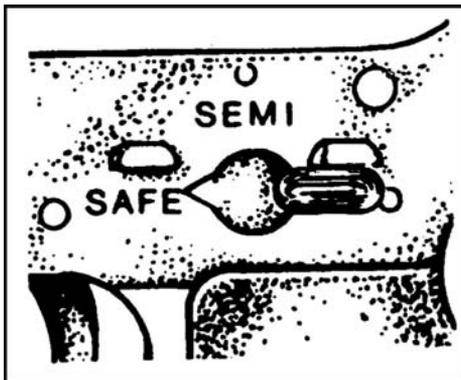

Figure 071-311-2026-1. Selector lever in SAFE position
1. Check an M16A1, M16A2, or M16A4 with the selector lever in the SAFE position (figure 071-311-2026-1).